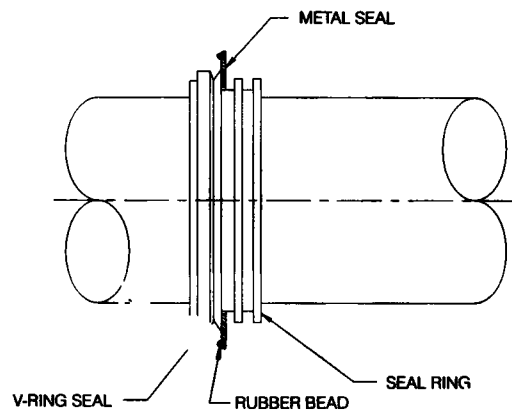

Figure 3a
DROP-IN TRIPLE TECT seals are pre-assembled at the factory. The DROP-IN TRIPLE TECT seal assembly consists of a seal ring, a V-ring seal, and a metal seal with rubber bead (see Figure 3a).
1. Slide one of the DROP-IN TRIPLE TECT seal assemblies on the shaft to the proper location for assembly into the housing. The lip of the V-ring seal must face the bearing (Figure 3a).